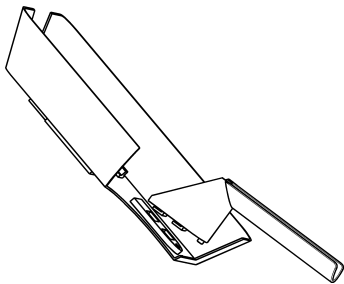

Figure 1 - Hook handle into the main face shield assembly
- ◆ Hook the handle into the main face shield assembly as shown in Figure 1 below.